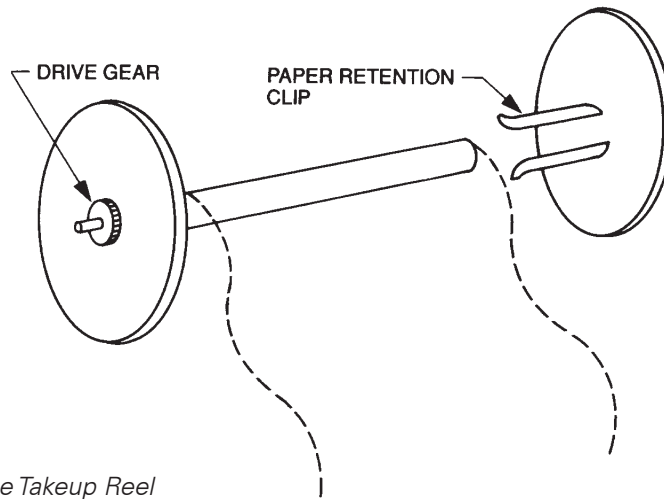

Figure 5
10. Separate the reel by pulling on both ends, revealing the paper retention clip (See Figure 5).